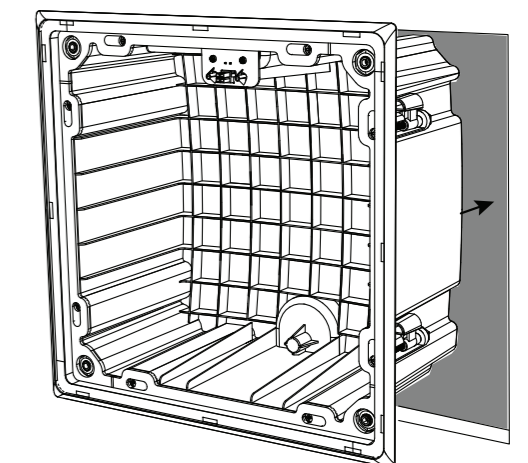

Fig. 17. Installing the back can
2. With the eight back can mounting clamps in the stowed (inward) position, press the back can into the drywall aperture. Be careful not to pinch the speaker wires or your fingers (Fig.17).